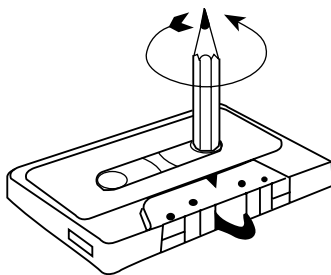

Fig. 1
- A loosely wound cassette tape may get damaged, prior to using such tape, tighten it in a manner as indicated by Fig. 1. A carelessly wound cassette tape will cause unnecessary pressure on the tape resulting in the cassette springing out while the tape is running. For prevention, rewind the tape by fast forwarding or rewinding.